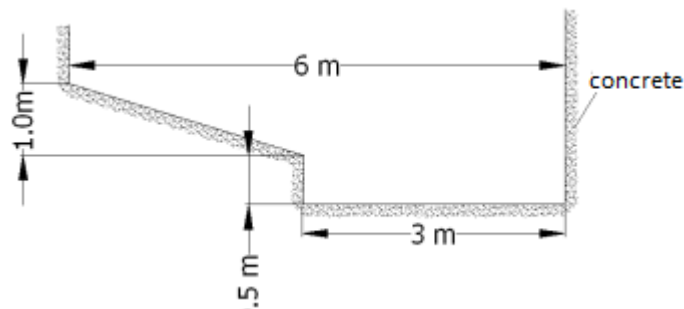

Figure 8.4
**Problem 8.4:** At the cross-section of the flow in a concrete channel was shown in Fig.8.4. Assuming the roughness coefficient for the channel  $n = 0.012$ . Bed slope is 2m/km. Calculate the discharge in the channel.